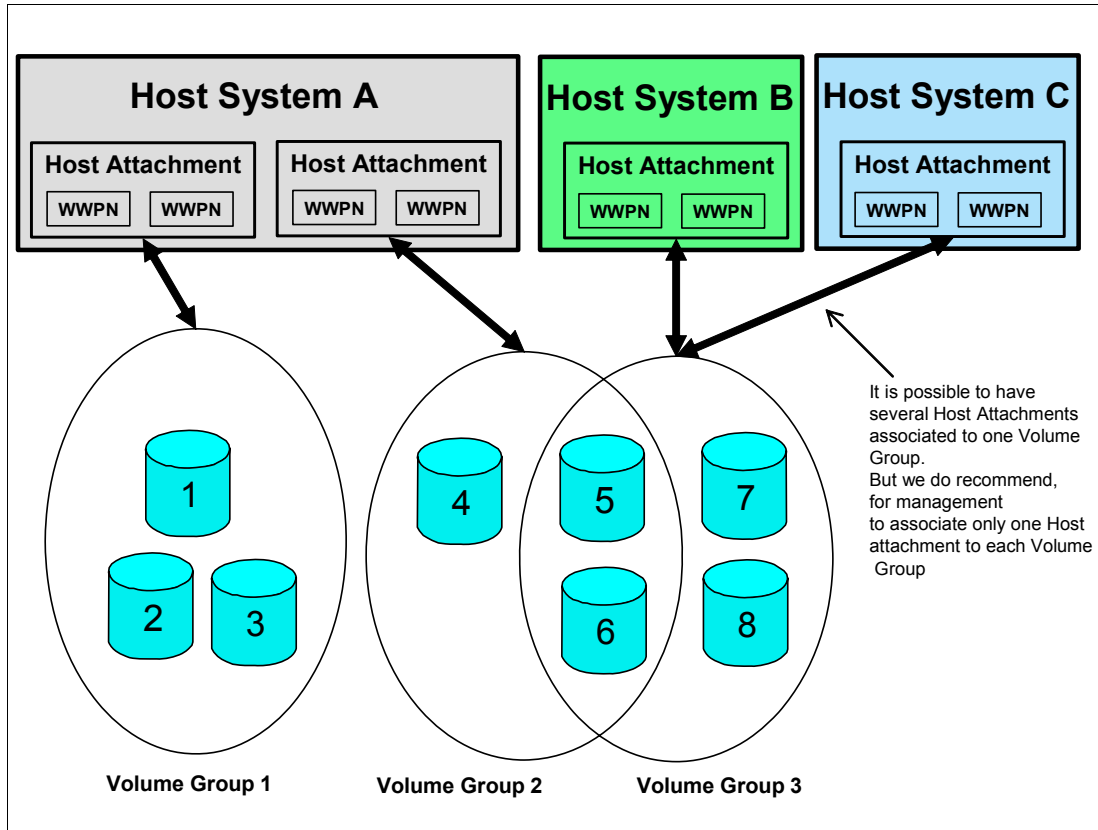

Figure 9-4 Example of Volume Group, LUNs and host attachment definition
- ▶ In order to share LUNs across multiple host attachments, LUNs can be in more than one volume group as shown in the example in Figure 9-4 on page 158.
In Figure 9-4 we show three hosts (Host A, Host B, and Host C). The three hosts are defined in the logical configuration as three different *host systems*. The user will group the WWPN of each host system in groups called host attachments. As shown in the diagram, each host attachment is assigned to one volume group. Volumes can belong to several volume groups. For example, volumes 5 and 6 are in Volume Group 2 and Volume Group 3, so they will be shared by Host A, Host B and Host C. Several host attachments can be associated to the same volume group. For example, Hosts B and C will share volumes 5, 6, 7 and 8 because their host attachments are assigned to Volume Group 3. However, for management simplification, we recommend that only one host attachment is assigned to each volume group.